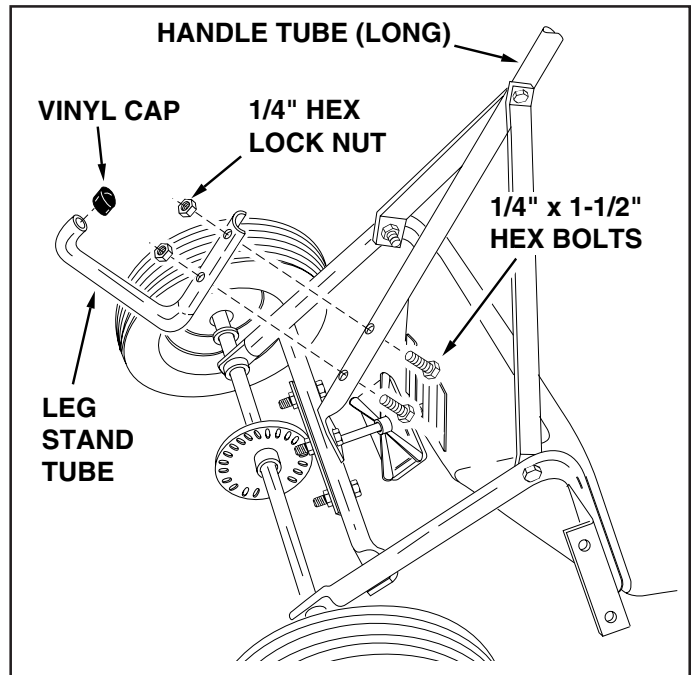

FIGURE 5
14. Assemble the leg stand tube to the handle tube (long) using two 1/4" x 1-1/2" hex bolts and two 1/4" hex lock nuts. **Tighten.** See figure 5.
15. Place the vinyl cap on the leg stand tube. See figure 5.